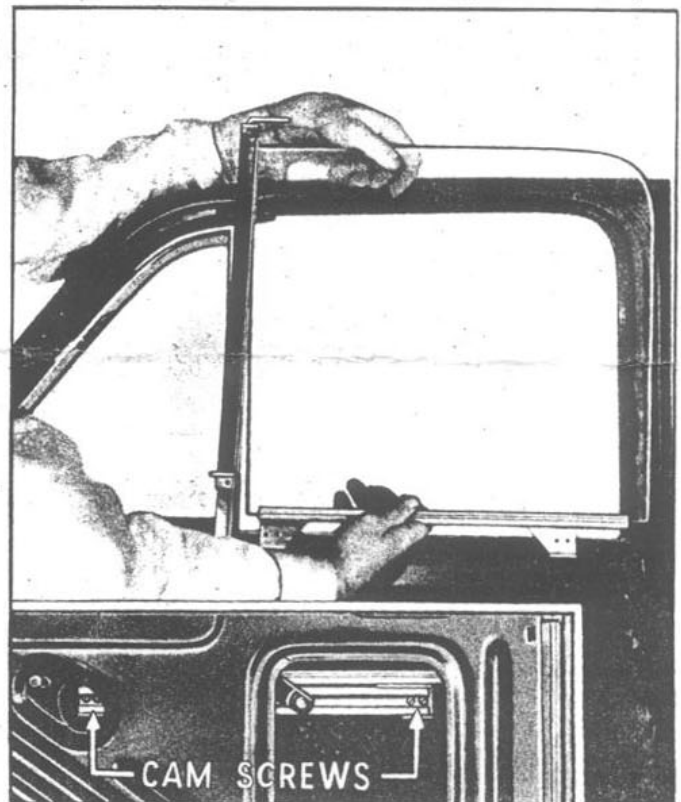

Figure No. 242
6. Remove the lower sash channel cam screws and disengage the cam from the cam support. (See insert in Figure No. 242.)